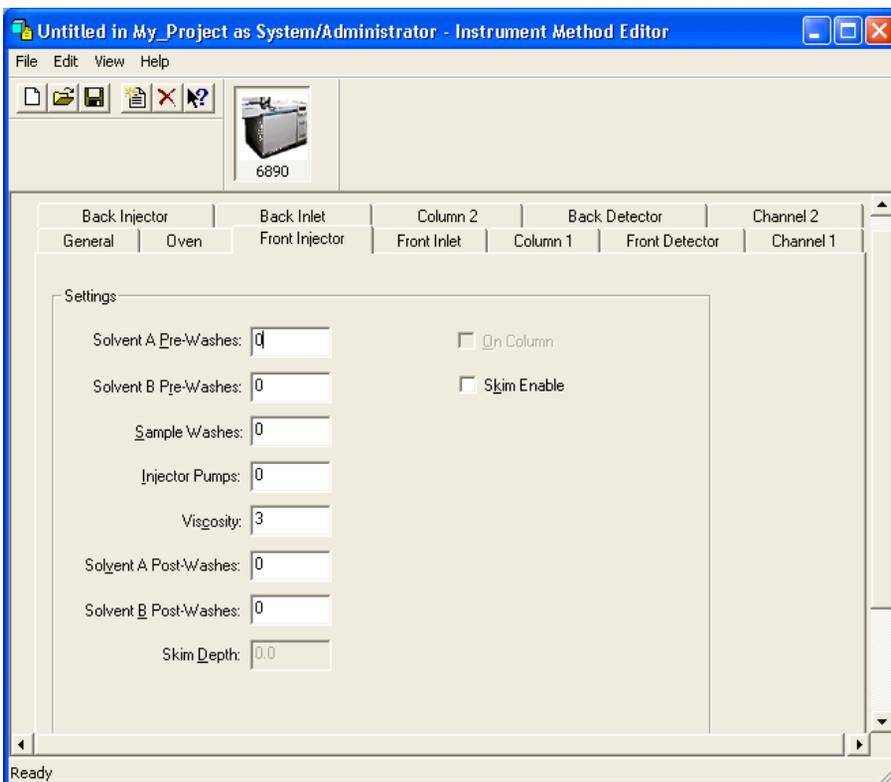

Figure 3-5 Instrument Method Editor, 6890, Front Injector Tab
4. Click the **Front Injector** tab. The Front Injector tab appears (Figure 3-5).